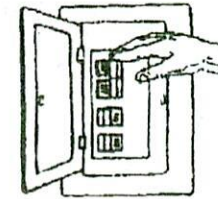

Fig. 1
- 5) Before installing the wall control unit please make sure that the master power supply is off at the main power switch fig. 1.